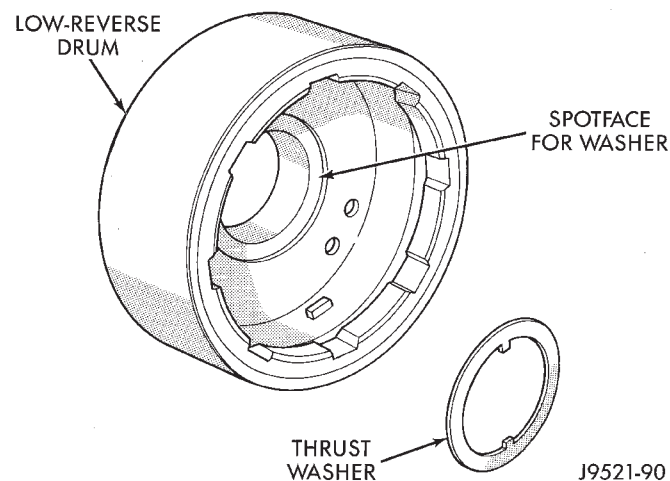

Fig. 114 Low-Reverse Drum And Thrust Washer
(27) Slide low-reverse drum and thrust washer off piston retainer hub and out of rear band (Fig. 114).